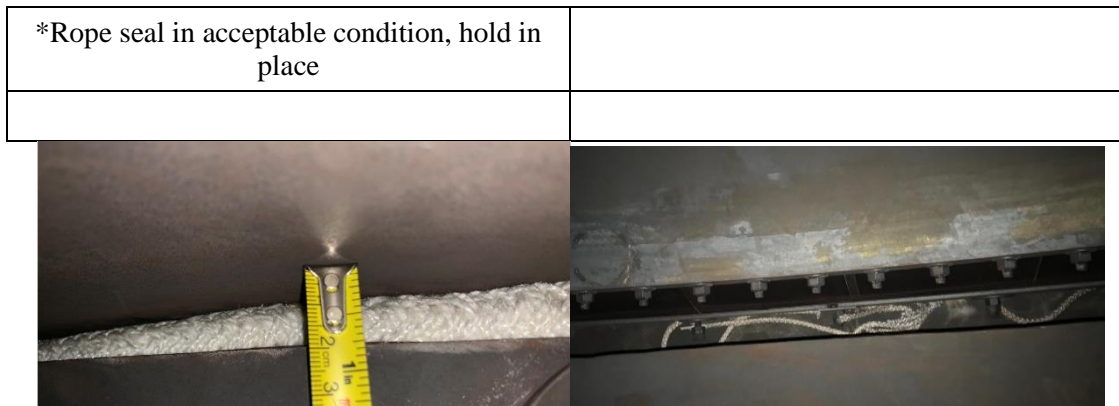

Figure.8 *Rone seal in unaccetable condition. out of position
- Using a mirror, inspect the full circumference of the rope seal to ensure the rope seal is entirely in place and there are no missing sections. Figure.8 are some example photos of what should be seen with the inspection mirror. Example photos of rope seal out of position.